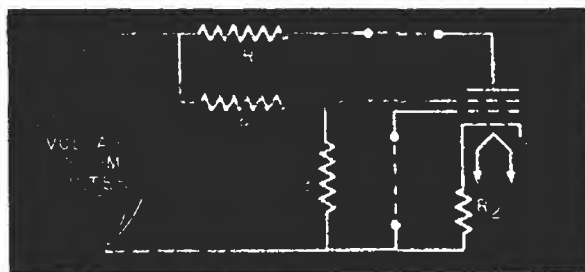

FIG. 23. A typical bleeder circuit.
► Fig. 23 shows a typical bleeder voltage divider. Screen grid voltage reduction is produced by R_1 , which carries both the bleeder current drawn by R_2 and the screen grid current of the tube. The bleeder serves to stabilize or hold steady the screen grid voltage. Should the bleeder open, however, only the screen grid current would flow through R_1 , so its voltage drop would be less and more
4. What type of current exists at the output of the rectifier tube: (1) *a.c.*; (2) *pure d.c.* or (3) *pulsating d.c.*?
9. Suppose the bleeder resistor opens in the circuit shown in Fig. 23. Would you expect the screen grid voltage to: (a) *increase*; (b) *decrease*, or (c) *remain the same*?
10. Would you expect to find: (1) *a choke input*; or (2) *a condenser input filter* used with a mercury vapor rectifier tube?